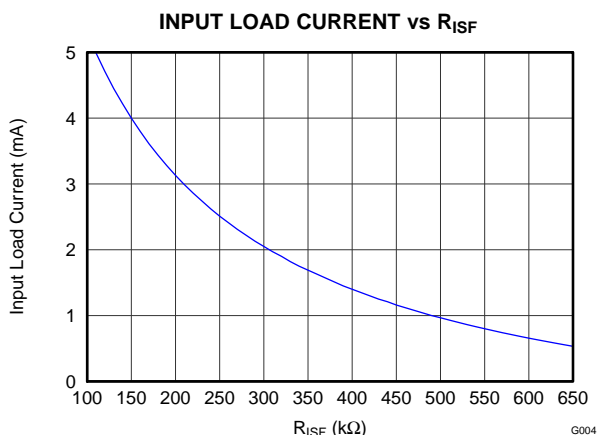

Figure 5.
• Updated <a href="#">Figure 5</a> .....	<a href="#">5</a>